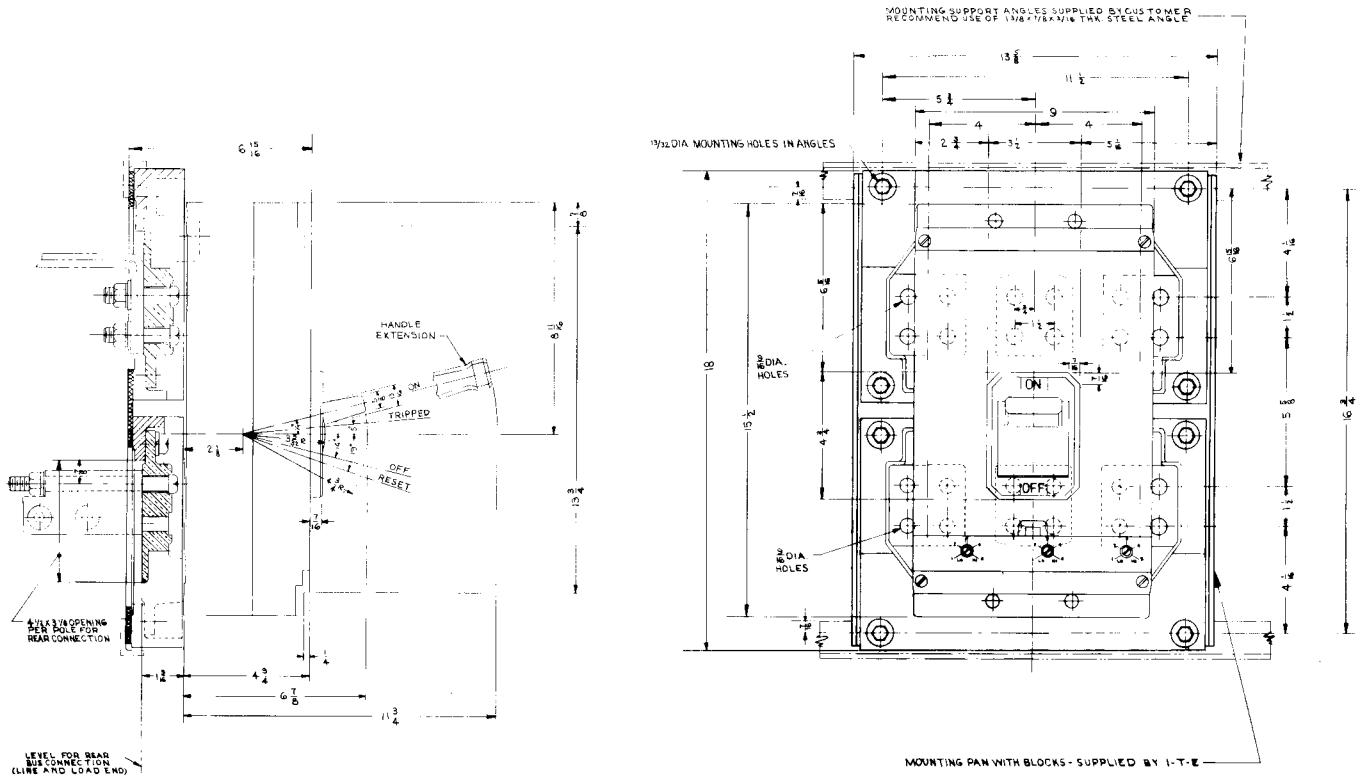

Fig. 7 — 2000-Ampere HR-Frame Circuit Breaker Dimensional Drawings with Reverse Mounting Block Assembly
Complete HR-frame circuit breakers, as listed, are furnished with a Connect-All mounting assembly (Fig. 3) or a Reverse Mounting Block assembly (Fig. 7). Pressure wire connectors are available suitable for use with copper or aluminum cables. To facilitate wiring to the terminals, pressure wire connectors may be mounted on the front or rear of the Connect-All assembly, but only on the rear of the Reverse Mounting Block.
4. Secure circuit breaker terminals to Connect-All assembly terminals (location 3, Figs. 2 & 3) or to the terminals of the Reverse Mounting Block assembly (refer to Fig. 7) using two (2) hex head bolts, lockwashers and washers (furnished)